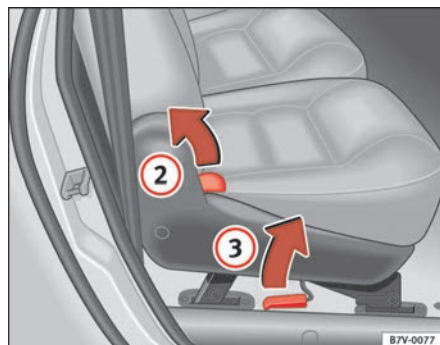
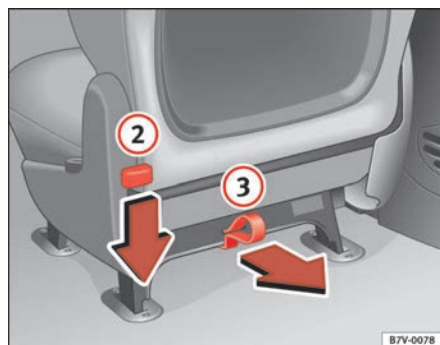

Fig. 90 Side of seat: fold the backrest and lift seat forwards
Fig. 91 Rear of seat: fold the backrest and lift seat forwards
- Pull the release lever at the seat surface ⇒ fig. 90 ② up or press the lever on the rear side of the seat ⇒ fig. 91 ② down.
- Pull the release lever at the seating surface ⇒ fig. 90 ③ up or pull the loop on the rear side of the seat ⇒ fig. 91 ③ down.